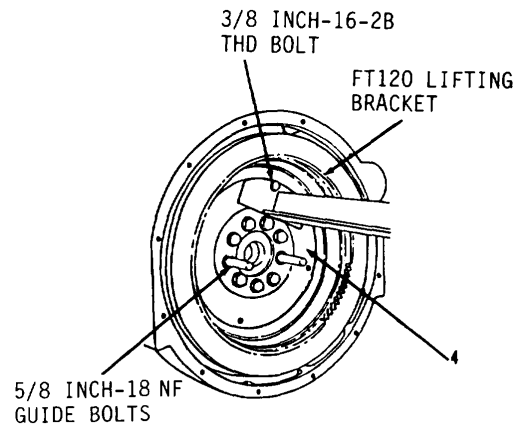
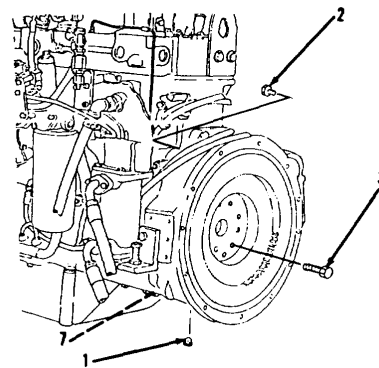

Figure 3-45.
Figure 3-46.
12. Install two 5/8-18NF guide bolts in end of crankshaft (Figure 3-45).
13. Install FT120 lifting bracket and 3/8-16-2B THD bolt on flywheel assembly (4).
15. Aline matchmarks on flywheel assembly (4) with crankshaft.
16. Position flywheel assembly (4) on two guide bolts.
17. Install nine bolts (3, Figure 3-46).
19. Apply gasket cement to bottom of gasket (7), where it meets oil pan plate.